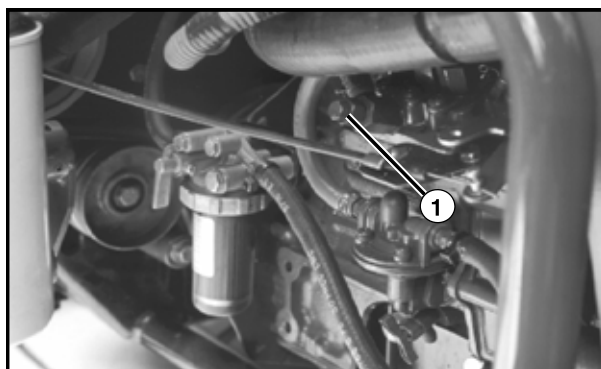

Figure 9.15.2
4. Open the air vent on top of the injection pump, open air vent only when engine is NOT running (See Fig. 9.15.2).